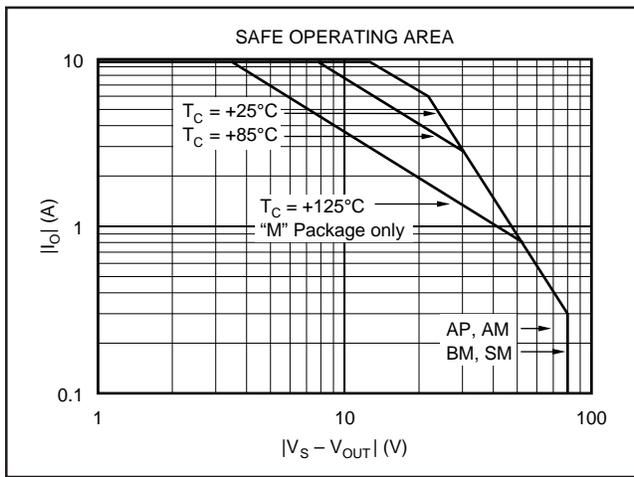

FIGURE 1. Safe Operating Area.
NOTE: (1) SOA is the Safe Operating Area shown in Figure 1. (2) Plastic package may require insulator which typically adds  $1^\circ\text{C}/\text{W}$ .
The safe operating area (SOA) plot provides comprehensive information on the power handling abilities of the OPA541. It shows the allowable output current as a function of the voltage across the conducting output transistor (see Figure 1). This voltage is equal to the power supply voltage minus the output voltage. For example, as the amplifier output swings near the positive power supply voltage, the voltage